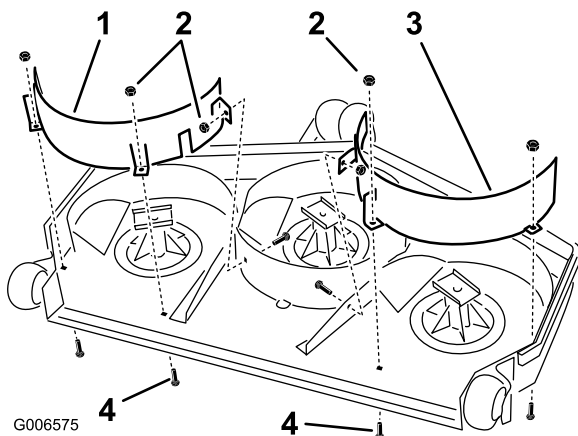

Figure 3
2. Loosely install the right baffle to the mower deck with 2 carriage bolts (3/8 x 1 inch) and 2 locknuts (3/8 inch) (Figure 3). Make sure the bolt heads are on the inside of the cutting chamber.
3. Loosely install the right baffle to the center baffle with 1 carriage bolt (3/8 x 1 inch) and a locknut (3/8 inch) (Figure 3).
5. Loosely install the left baffle to the mower deck with 2 carriage bolts (3/8 x 1 inch) and 2 locknuts (3/8 inch) (Figure 3).
6. Loosely install the left baffle and the center baffle to the mower deck baffle with a carriage bolt (3/8 x 1-1/4 inches) and a locknut (3/8 inch) (Figure 3).